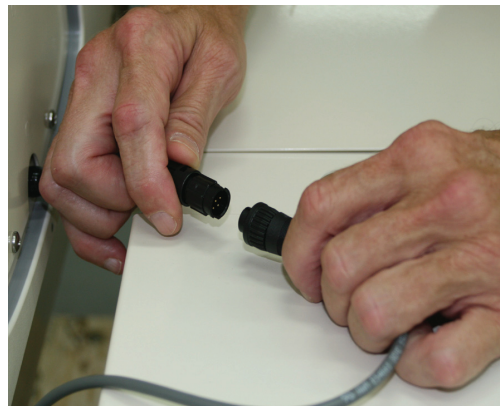

Figure 2
2. Connect Scale System quick release electrical connector from the bed to foot board rear bottom fixed connector (Figure 2).
Disconnect Foot board scale system cable before removing Foot board (Figure 2).